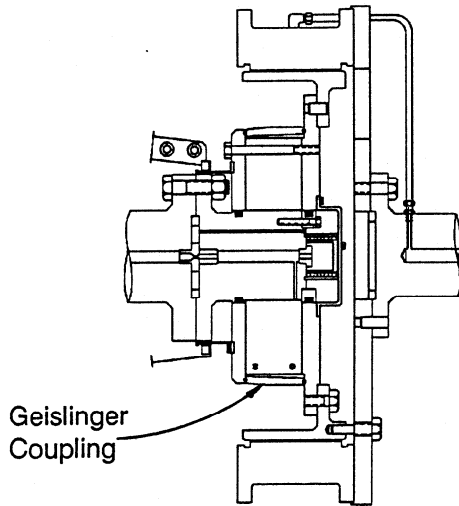

Fig. 7
- 2.15 Figure 7 illustrates a typical marine main propulsion application where the clutch is mounted between the engine and reduction gear. In this arrangement, the VC clutch is combined with a Geislinger® flexible torsional coupling.